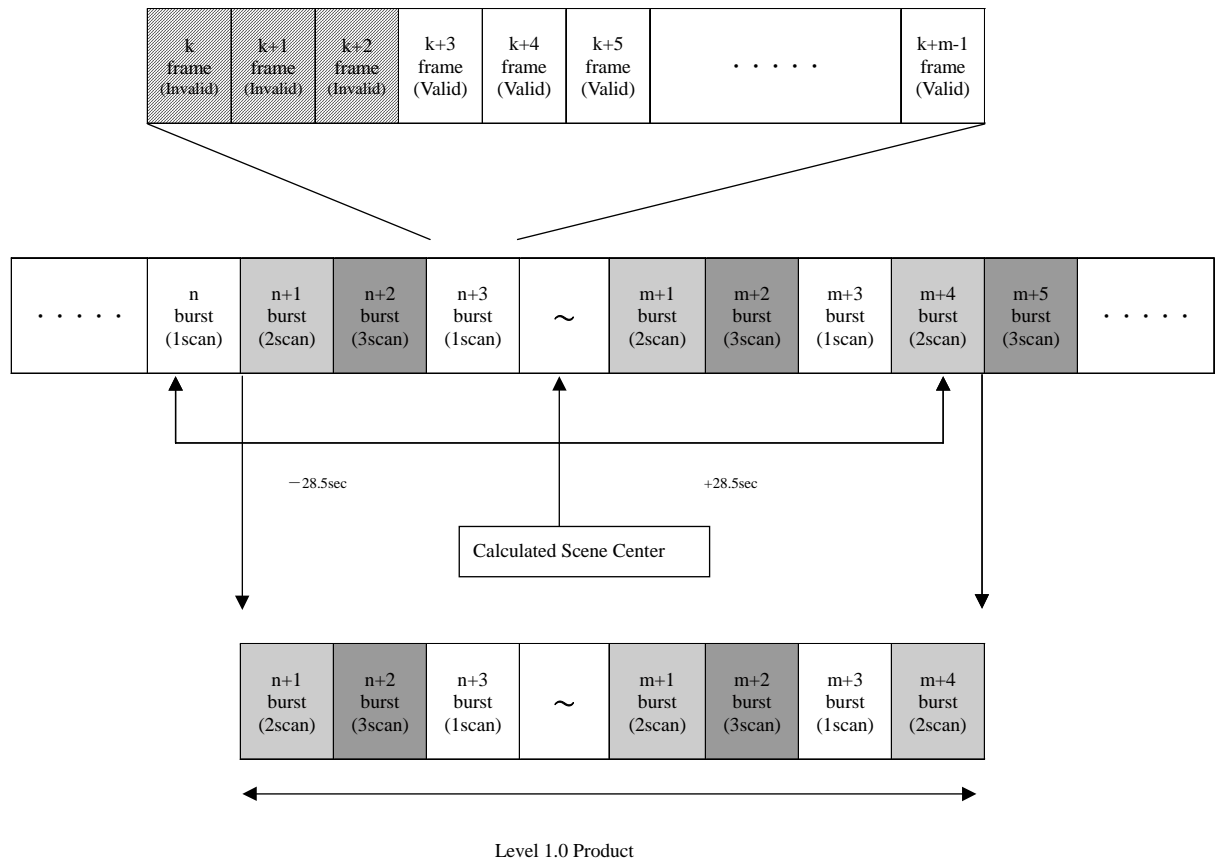

Figure 2-1 Method of extracting a scene in SCAN SAR mode
- Figure 2-1 Method of extracting a scene in SCAN SAR mode
Figure 2-1 shows the method of extracting a scene in SCAN SAR mode.